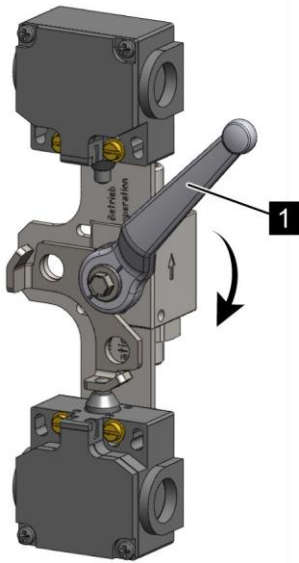

Fig. 178: Checking blocking device (optionally with 1 or 2 limit switches)
2. ➤ Check the ball valve (Fig. 178/1) for ease of movement.
3. ➤ Switch the ball valve (Fig. 178/1) to "blocked" position (Fig. 178/arrow).